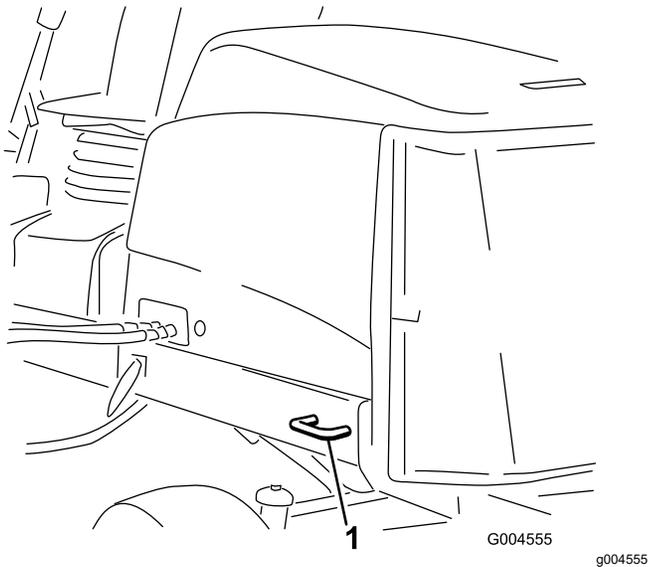

Figure 56
- Rear—each side of the machine on the rear frame (Figure 56)